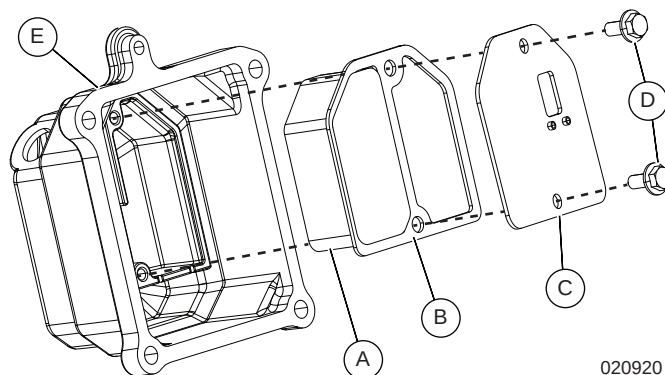

Figure 12-9. Install Oil Breather System into Rocker Cover
1. See Figure 12-9. Assemble coalescing media (A), breather gasket (B), breather plate (C), and fasteners (D) into rocker cover (E) for cylinder 2 to build breather assembly.